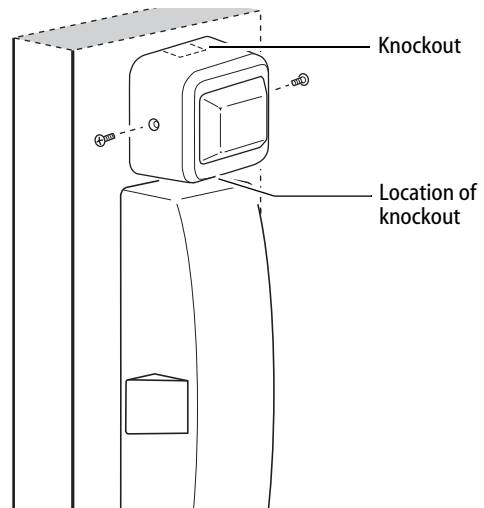

Figure 19 Installing the battery cover on the bracket
- 1 **If installing with a surface rod exit device**, remove the knockouts for the rod from the battery cover. See Figure 19.
- 3 Use the appropriate driver to secure the battery compartment cover with the screws. Tighten firmly. See Figure 19.